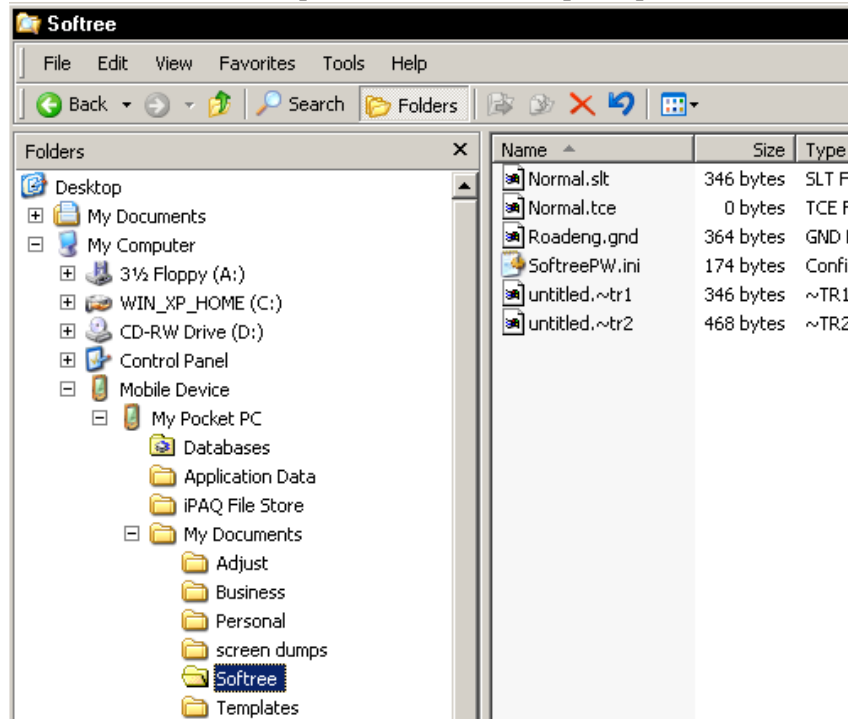

Figure 10.1: Windows Explorer Displaying File Extensions
Some handhelds, such as the one used in this example, do not display file extensions in the file explorer (although it is possible to identify the `tr1` file by its icon ). However, once the handheld is connected to the desktop (or laptop) the extensions can be viewed in Windows Explorer (Figure 10.1). It is therefore easier and safer to rename or delete backup files from the desktop computer rather than the handheld.
2. Open Windows Explorer and navigate to the ActiveSync image directory (Located in My Documents if you have a *partnership* between your mobile device and desktop computer) or to the handheld device itself (as shown in figure 10.1, if you are only connected as a *guest*)